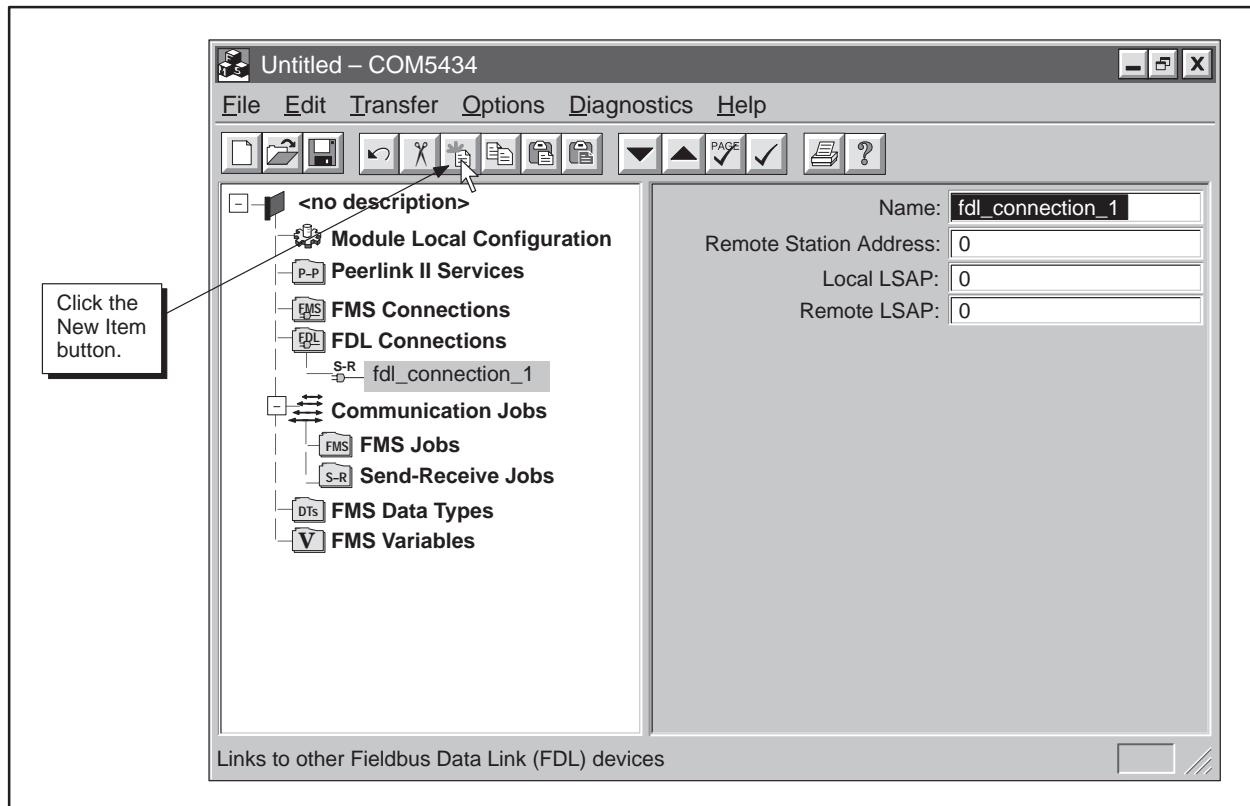

Figure 5-17 Defining FDL Connections
2. Click on the New Item button on the toolbar. An FDL connection appears in the configuration tree and the input fields change (see Figure 5-17).